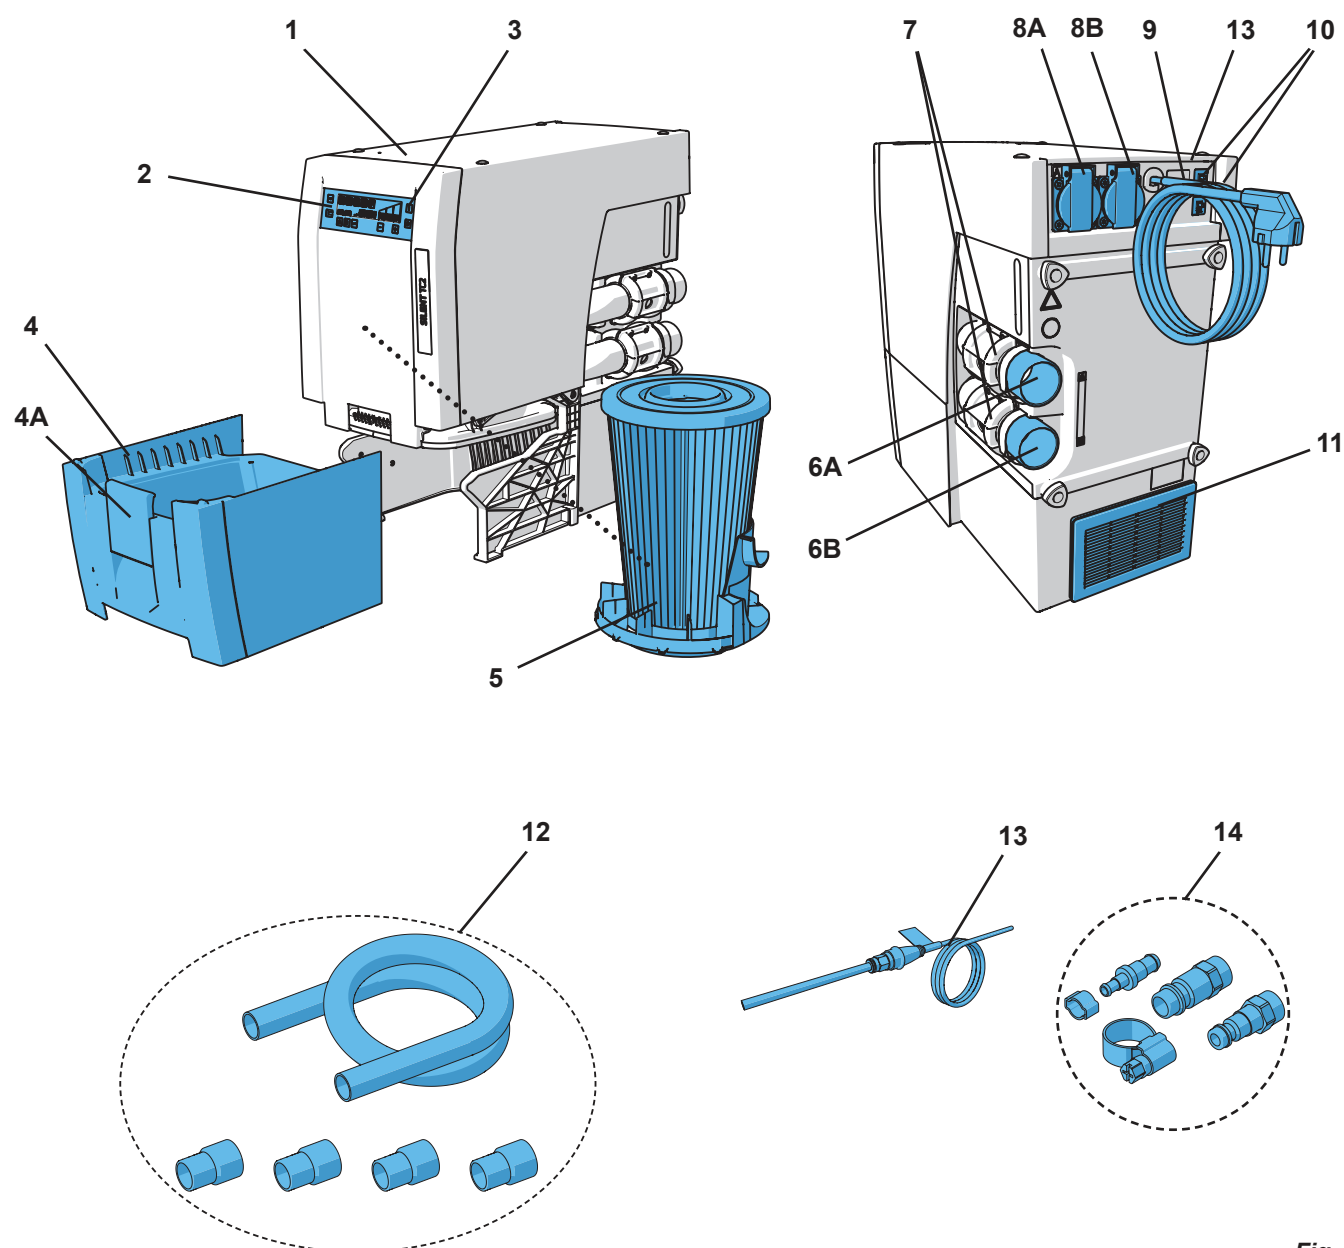

Fig. 1
- the exhaust air outlet (11, Fig. 1) is not blocked.
- External exhaust air duct (A) (see chapter 4.7).
- Opening in the cabinet wall (B), min. 250 x 120 mm, directly opposite the exhaust air outlet (11, Fig.1).
- Remove the back side of the cabinet (C), distance from the back of the cabinet to the wall min. 50 mm.
- ⇒ Unroll the mains cable (9, Fig.1) and insert the plug into the building's electrical socket.
- ⇒ Select the appropriate tube coupling from the supplied connection set (14, Fig. 1) and attach it to the end of the tube.